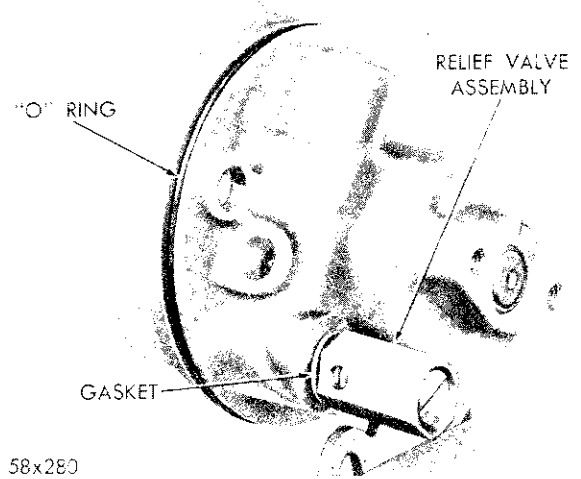
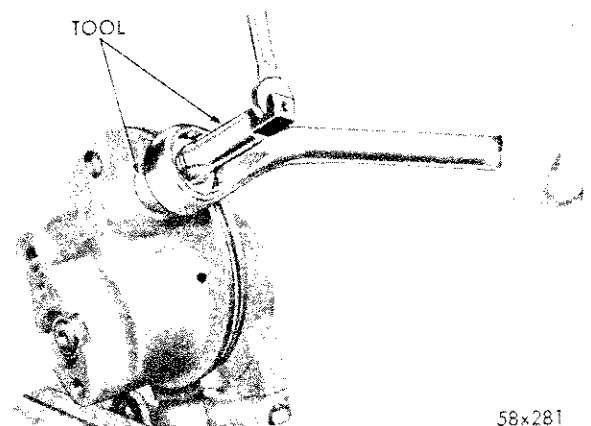

Fig. 49—Removing Relief Valve
Fig. 50—Removing Flow Control Valve Plug
(6) Remove the relief valve assembly and the gasket (Fig. 49). **The relief valve is serviced only as an assembly.**
(7) Remove the flow control valve plug snap ring with pliers, Tool C-3229.
(8) Remove the flow control valve plug with Tool C-3655 (Fig. 50) by threading the tap securely into the plug. Place spacer and nut over the tap. Hold the tap and tighten the nut to remove the plug.